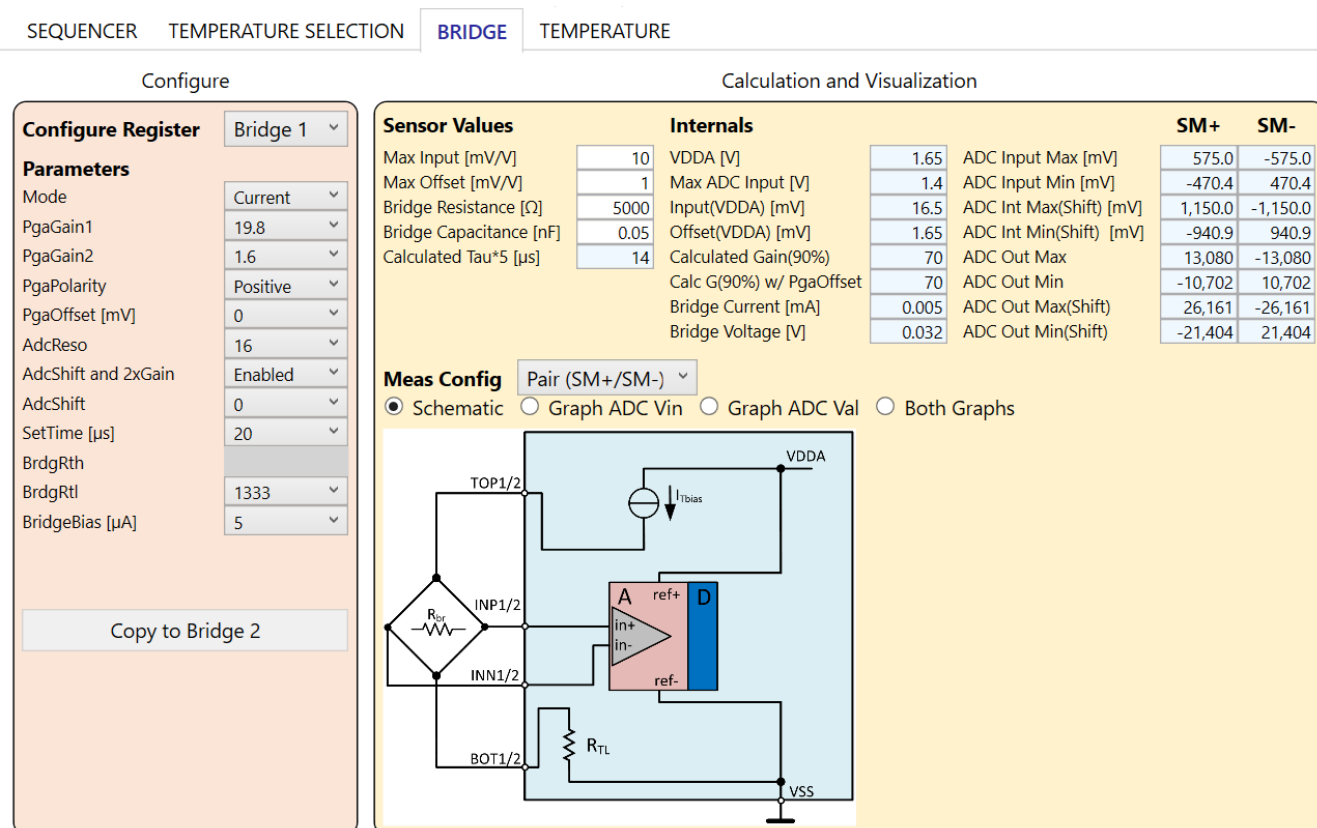

Figure 67. Current Mode
- Current: configurable internal current source with configurable internal series resistor, see Figure 67.